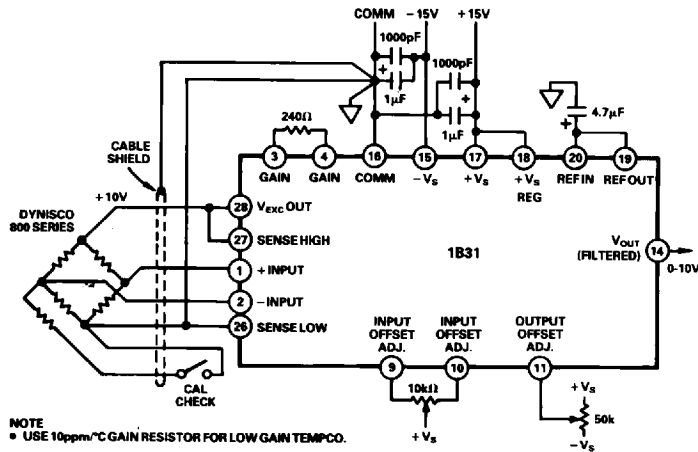

Figure 16. Pressure Transducer Application
**Pressure Transducer Interface:** A strain gage type pressure transducer (Dynisco 800 series) is interfaced to a 1B31 in Figure 16. Regulated excitation of +10V dc is provided for a 30mV full-scale output. The gain is sett at 333.3 to achieve a 0-10V output for a 0-10,000 psi range of the transducer. A shunt calibration resistor is built into the transducer for easy verification of the 80%-point of its full-scale output. A typical shielding scheme to preserve the excellent performance characteristics of the 1B31 is also shown. To avoid ground loops, signal return or cable shield should be grounded only at one point.